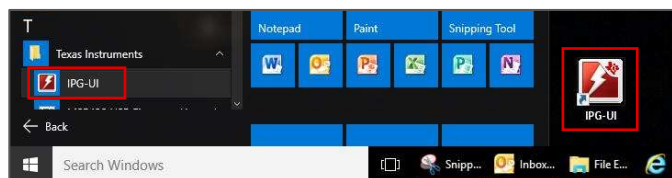

Figure 16. Run the IPG-UI Software
- Run the IPG-UI software by using the Windows *Start Menu* and navigating to the Texas Instruments folder, or by double-clicking the desktop icon, as shown in Figure 16.